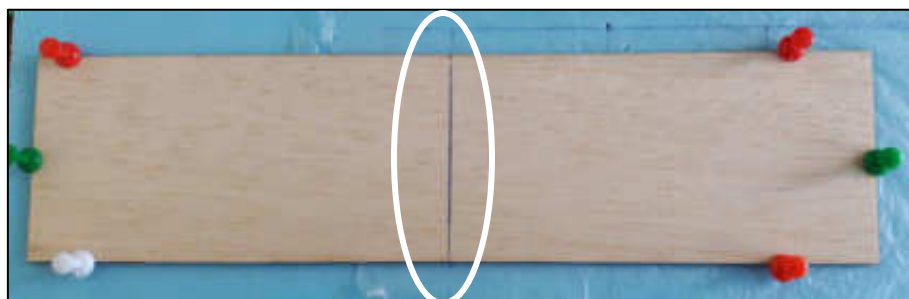

Figure 12: Mark the horizontal tail.
12. Using a pen, mark the centre of the horizontal tail and use pins to hold it to the Styrofoam, Figure 12: